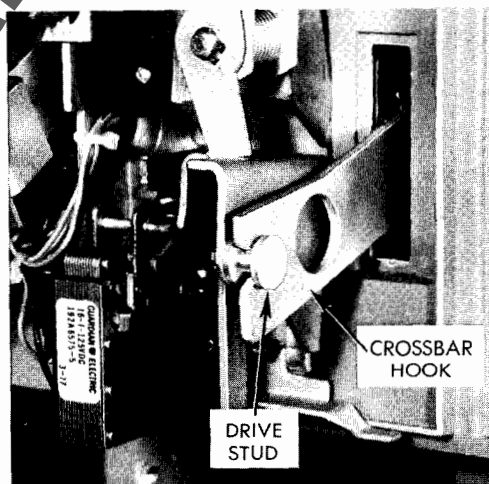

Fig. 12.
- b. Slide the Inner Cover Assembly onto the breaker base. Ensure that the crossbar hook engages the drive stud as shown in Fig. 12.